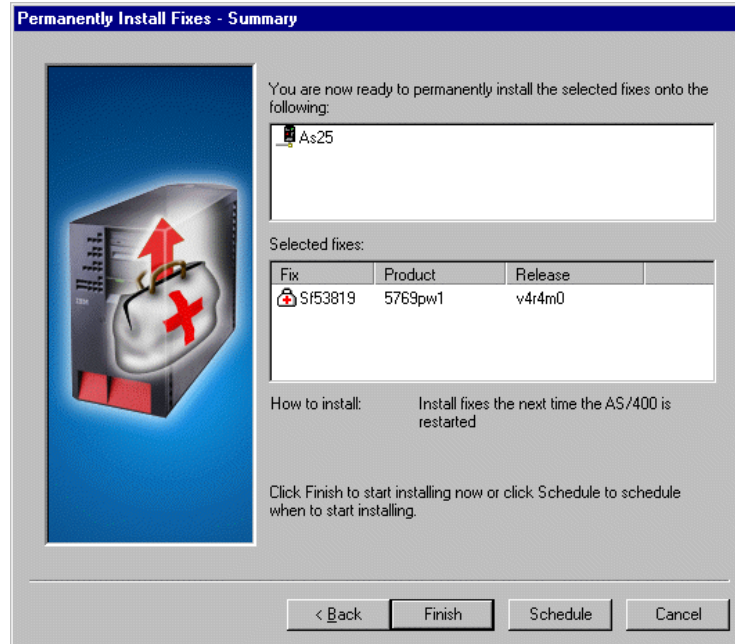

Figure 98. Permanently Install wizard: Summary window
- Note the warning on this window before making your selection. We recommend that you accept the default, which is **Install fixes the next time the AS/400 is restarted**. Click **Next** to reach the Summary window, which is shown in Figure 98 on page 119.